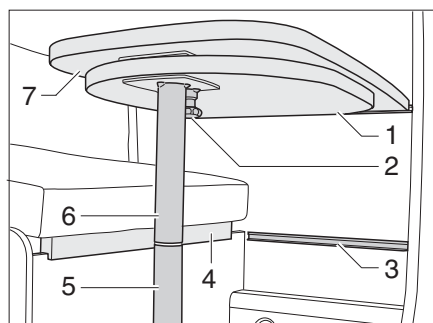

Fig. 38 Suspension table with dismantlable support leg
- Pull the knob (Fig. 38,2) of the locking mechanism downward and swivel out the table-top extension (Fig. 38,1).
- Swivel the table-top extension (Fig. 38,1) under the table-top (Fig. 38,7) until the locking mechanism latches audibly.
- If necessary, place the multiplex strip (Fig. 38,4) on the bench seat.
- Swivel out the table-top extension (Fig. 38,1).
- Lift the front of the table-top (Fig. 38,7) by approx. 45°.
- Pull out the lower part of the support leg (Fig. 38,5) down and lay aside.
- Hook the table-top with the retainers at an angle of 45° into the lower attachment rail (Fig. 38,3) and set it down onto the floor with the upper part of the support leg (Fig. 38,6).
- Lift the front of the table-top (Fig. 38,6) by approx. 45°.